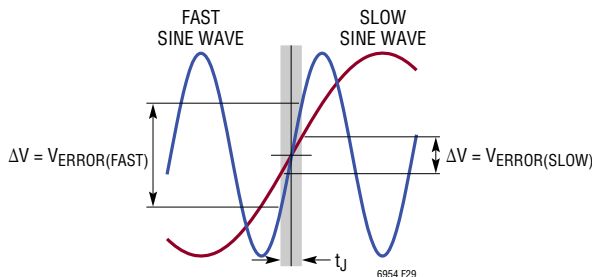

Figure 29. Fast and Slow Sine Wave Signals Sampled with a Jittery Clock
Degradation of the SNR due to sample clock jitter only occurs if the input signal is slewing. If the input signal is stationary (DC), then it does not matter when in time the sampling occurs. Additionally, a faster slewing signal yields a greater error (more noise) than a slower slewing signal. Figure 29 demonstrates this effect. Note how much larger the error term is with the fast slewing signal than with the slow slewing signal. The conclusion is to maintain the data converter's SNR performance, digitization of high input frequency signals requires a clock with much less jitter than applications with lower frequency input signals.